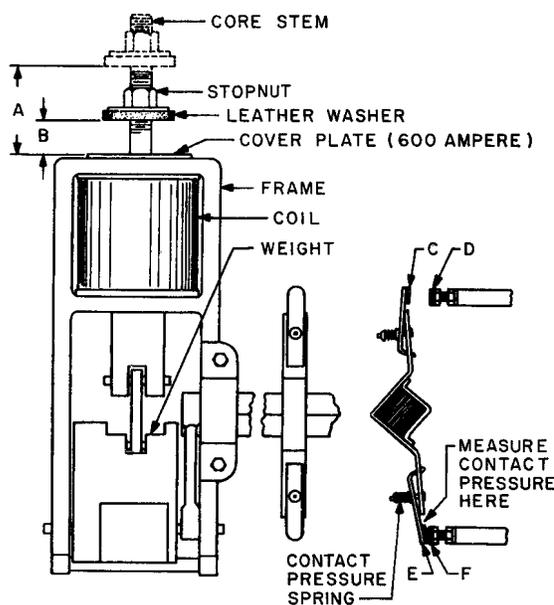

Fig. 3 - Plunger and Auxiliary Contact Adjustment
AMPERE CAPACITY	DIMENSION B (See Fig. 3)
3.05 Plunger and Auxiliary Contact Setting — See Fig. 3 (Reqt 2.05)
AMPERE CAPACITY	DIMENSION A (SEE FIG. 3)
- (1) **Auxiliary Contacts** — See Fig. 3: To measure contact pressure of auxiliary contacts, operate the contactor manually to the desired position. Place the gauge against the contact spring as near to the moving contact as possible and exert a pressure with the gauge
- To add Fig. 3, 4, and 7.